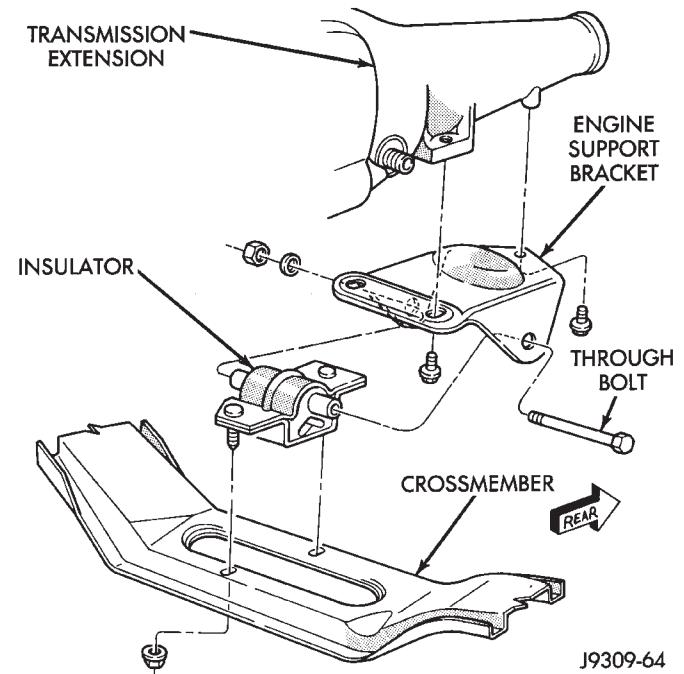

Fig. 19 Rear Insulator Automatic Transmission—2WD
- Remove engine support bracket—insulator thru-bolt (Fig. 19).
- Remove stud nuts attaching insulator to cross-member (Fig. 19). Remove insulator.
- (1) If the engine support bracket (Automatic Transmissions) was removed, position the bracket to the transmission extension (Fig. 19). Tighten the bolts to 68 N·m (50 ft. lbs.) torque.